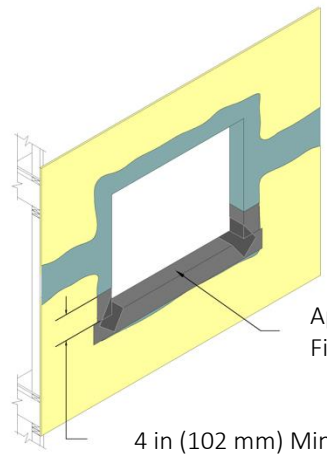

Figure 11
- 3) Apply Dryvit AquaFlash System or Backstop Flash and Fill at sill in accordance with Sections 4.A.3. **NOTE: AquaFlash System or Backstop Flash and Fill must extend up the jambs a minimum of 4 in (102 mm) – Figure 11.**